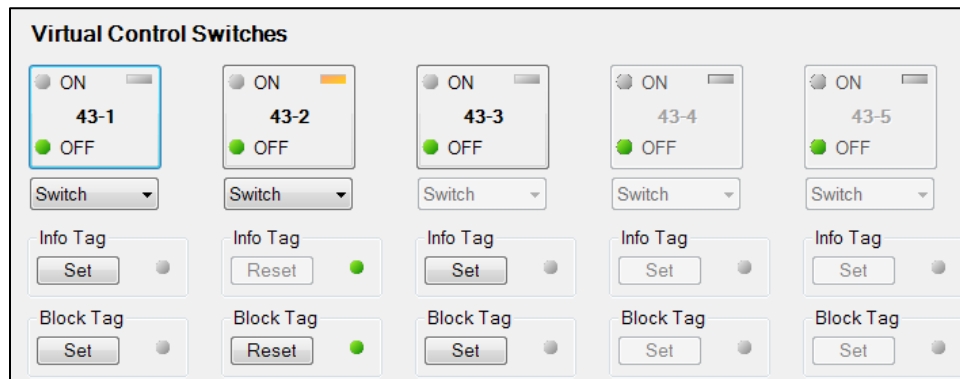

Figure 69-2. BESTCOMSPiPlus Virtual Switches Control Screen
- Step 4: Use the Metering Explorer of BESTCOMSPiPlus to open the Control, Virtual Switches tree branch (Figure 69-2). Using select-before-operate, perform the following steps to control a virtual switch.